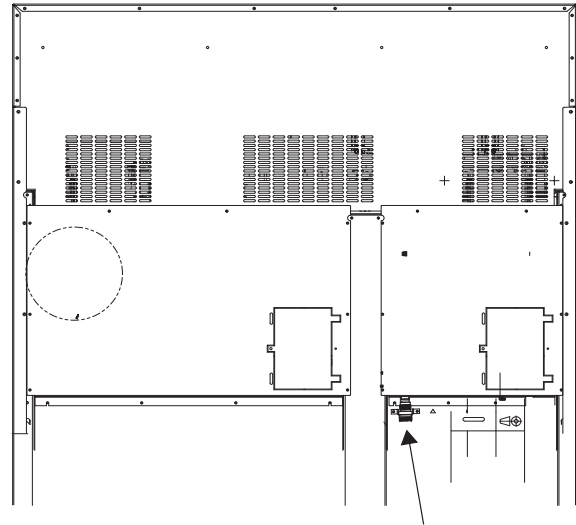
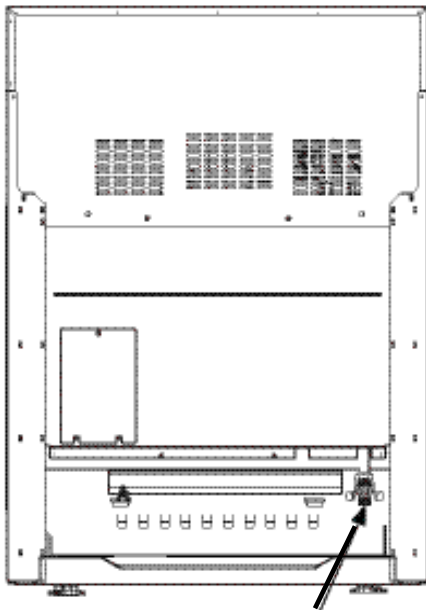

Figure 10: Location of Gas Supply Inlet Connection on 48" Ranges
Figure 9: Location of Gas Supply Inlet Connection
2. Use a ¾" (19mm) flex line to connect between the gas supply and the appliance gas inlet. The gas supply line connection is located at the lower right portion of all range models (see *Figure 9* and *Figure 10*). The appliance gas inlet connection is ½" (13mm) NPT.